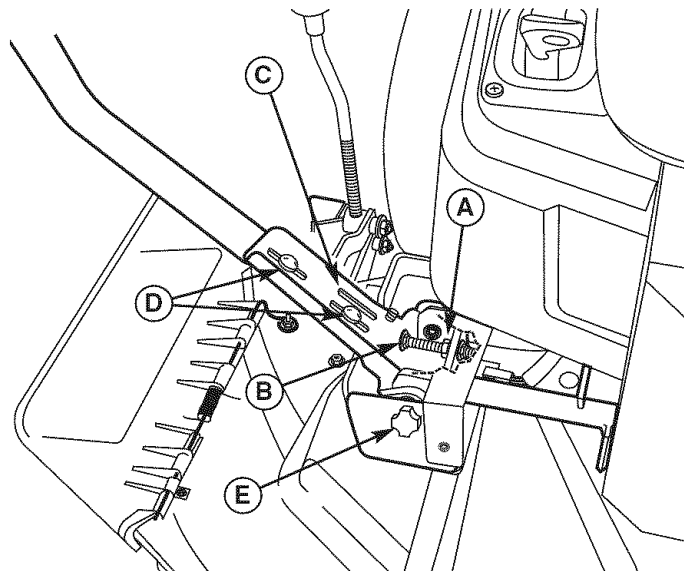

Figure 30. Control Lever Adjustment
To Adjust Control Lever Height: Pull the levers in across the operator's lap to their DRIVE positions. Loosen the mount bolts (D, Figure 30) and raise or lower the levers to the desired position. Tighten the mounting bolts.(D).
To Adjust Control Lever End Gap: The control lever end gap should be adjusted so that the levers do not contact each other when placed in DRIVE positions. Loosen the jam nut (A, Figure 30) and adjust the length of the carriage bolt (B) so that the levers do not contact each other. Repeat on the opposite side. Tighten the jam nut (A) to lock the carriage bolt in position.
To Adjust Operator Clearance: The space between the operator and the control levers can be increase by removing the lower mounting bolt (D, Figure 30), pivoting the lever forward, and reinstalling the capscrew through the control lever and forward slot (C). Repeat with the other ground speed lever.
If the rider veers to the right or left when the ground speed control levers are in the maximum forward position, the top speed of the right lever can be balanced by turning the adjustment knob (E, Figure 30). Loosen the jam nut and turn the knob COUNTERCLOCKWISE to increase speed or CLOCKWISE to decrease speed. Tighten the jam nut when complete.